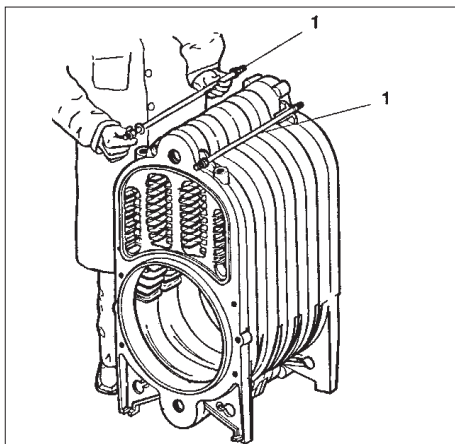
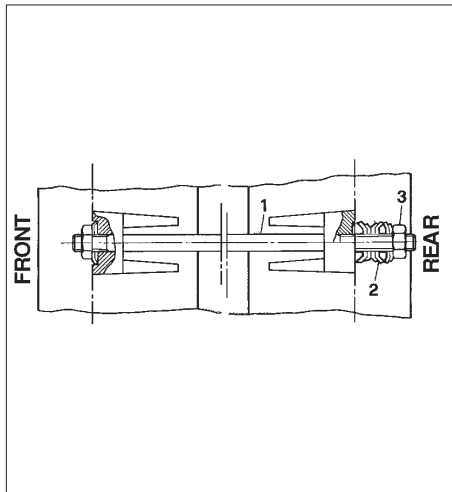

Fig. 14
Fig. 15
4.09 (Figs 14 - 15 - 16) Mount the four rods «1», the Belleville washers «2» as shown in fig. 15 and finally torque nuts «3».